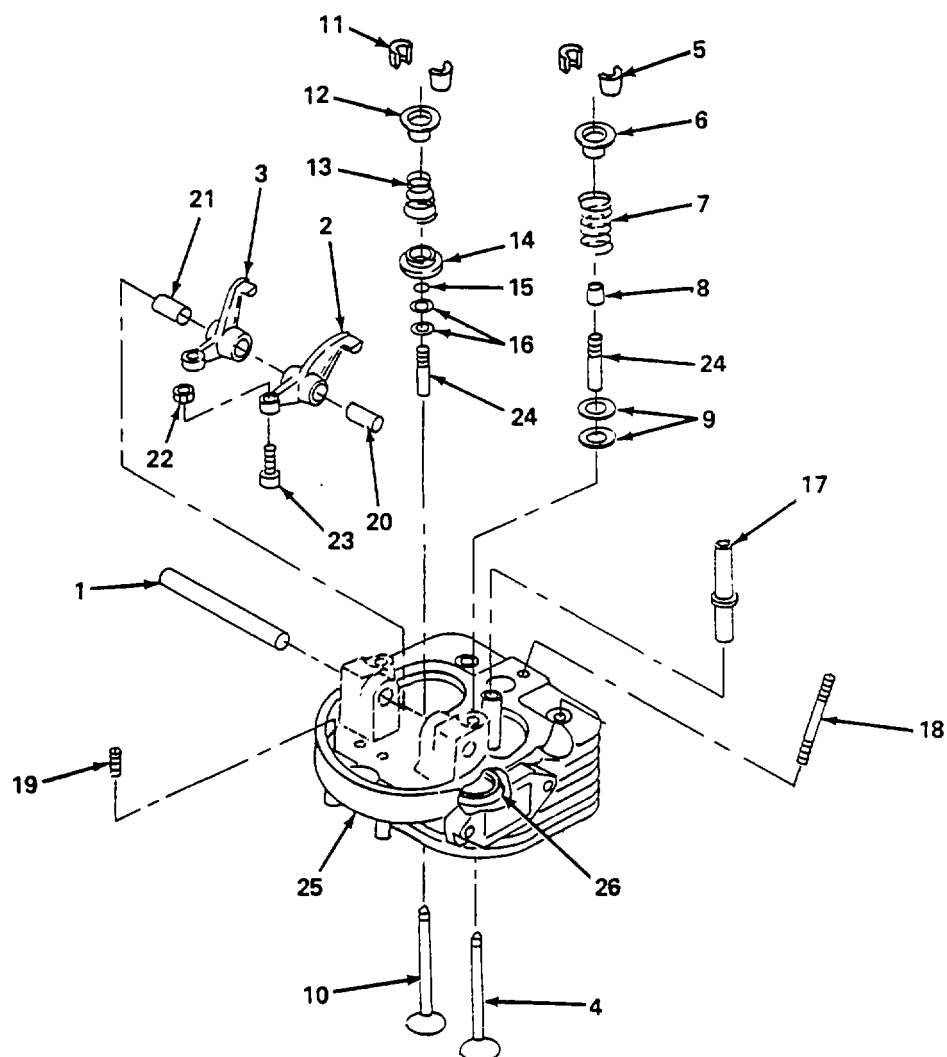

Figure 5-43. Cylinder Head Assembly, Repair.
- c. Repair. (figure 5-43)
- (1) Remove cylinder head assembly (para. b.).
- (2) Press out rocker arm shaft (1) and remove intake rocker arm (2) and exhaust rocker arm (3).
- (3) Using valve spring compressor, compress intake valve (4) and remove two retainer halves (5), collar (6), spring (7), seal (8), two washers (9), and valve (4).
- (4) Using valve spring compressor, compress exhaust valve (10) and remove two retainer halves (11), collar (12), spring (13), roto cap (14), retaining ring (15), two washers (16), and valve (10).
- (5) Remove check valve (17).
- (6) Remove two studs (18).
- (7) Remove two studs (19).